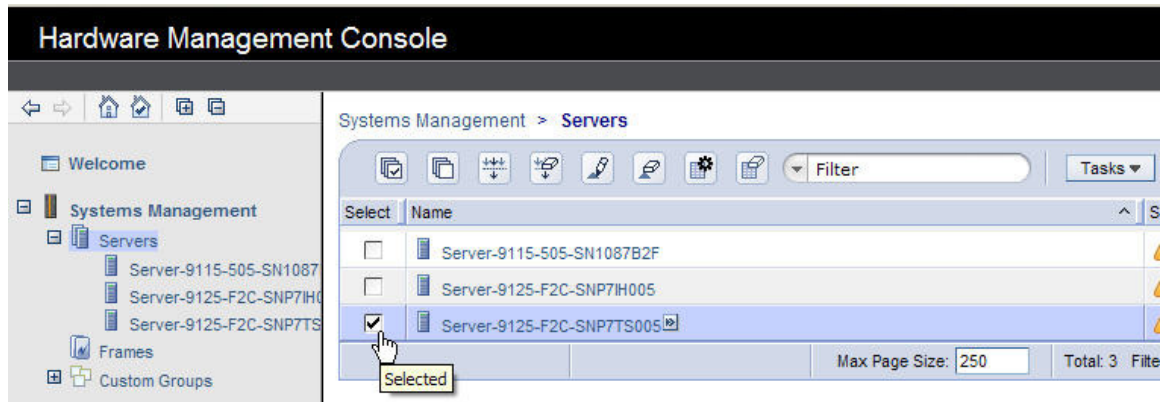

Figure 5 HMC CEC Drawer Selection
STEP 9 Place a checkmark in the **Select** column for the Server with the CEC Drawer to be serviced. See Figure 5 .